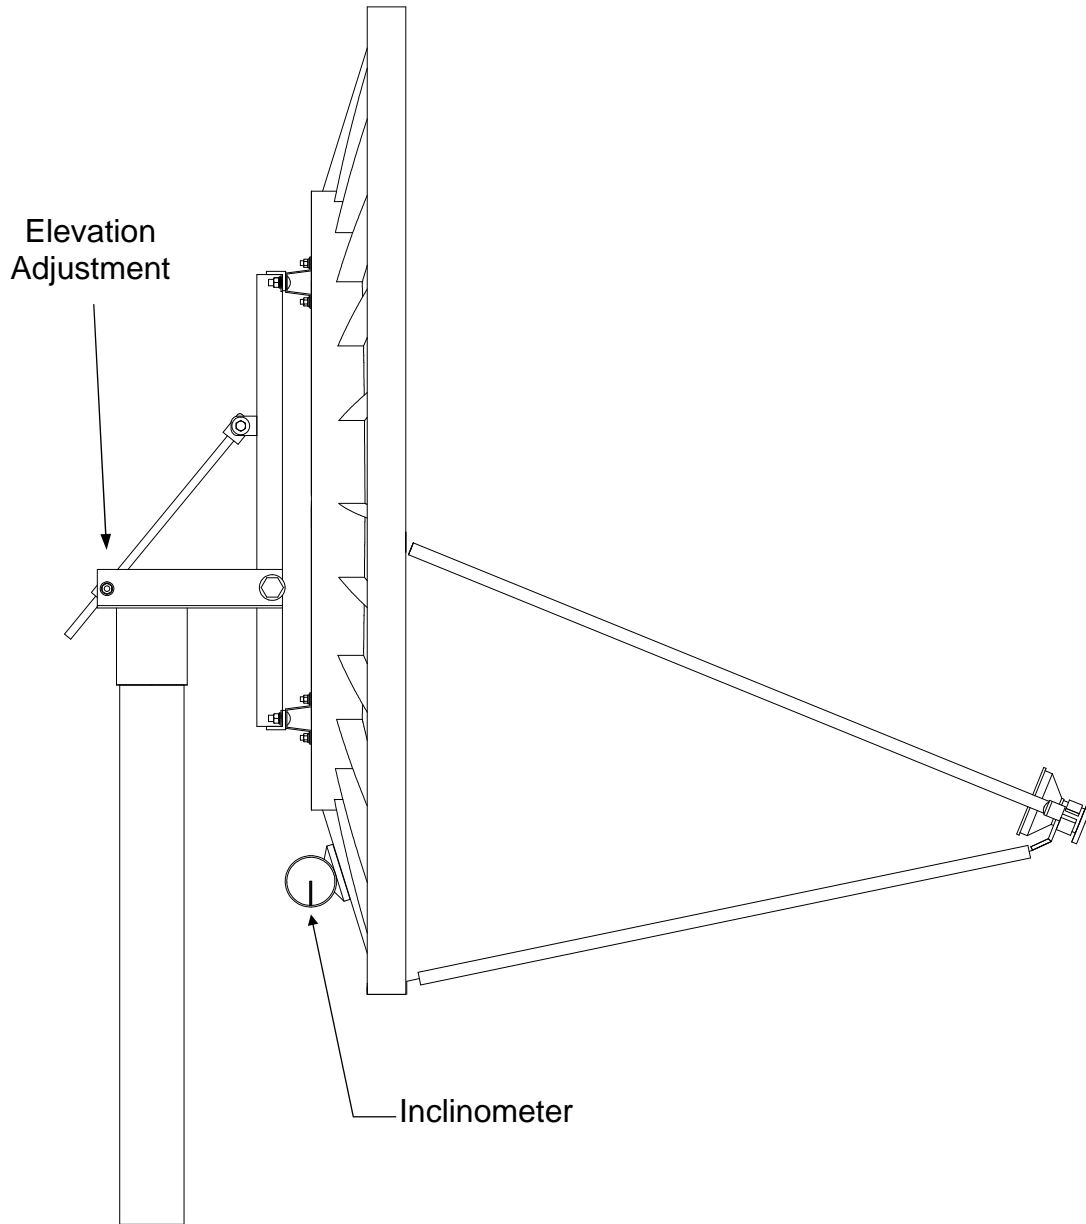

FIGURE 3
- 1) Aligning to primary satellite: Place the inclinometer on the sight reference rib as shown in figure 3. This surface compensates for the 22.3° offset in the reflector; therefore a direct reading can be taken.
- 5) Tighten the four (4) 1/2" set screws in the canister.